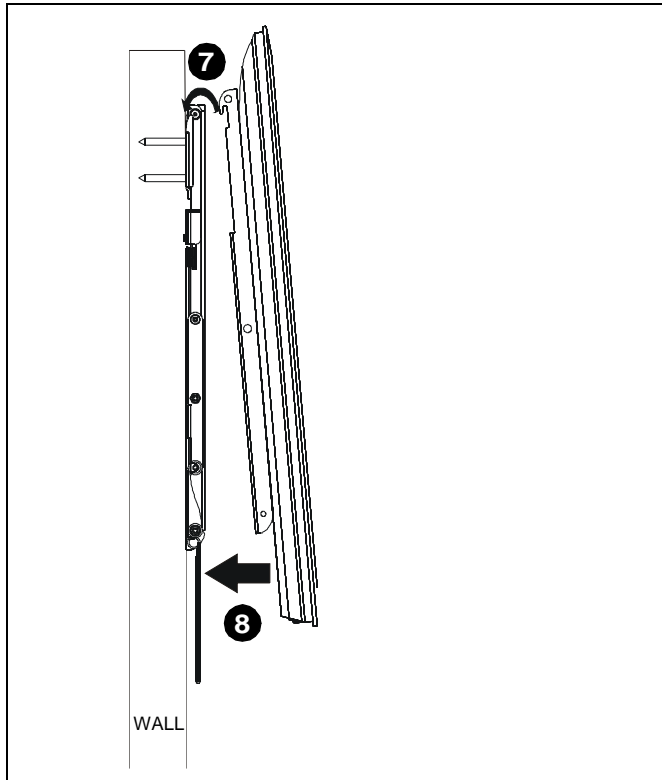

Figure 5
7. Slowly guide hooks on top of interface brackets on top of wall plate in desired mounting location. (See Figure 5)
8. Slowly swing display toward wall. (See Figure 5)